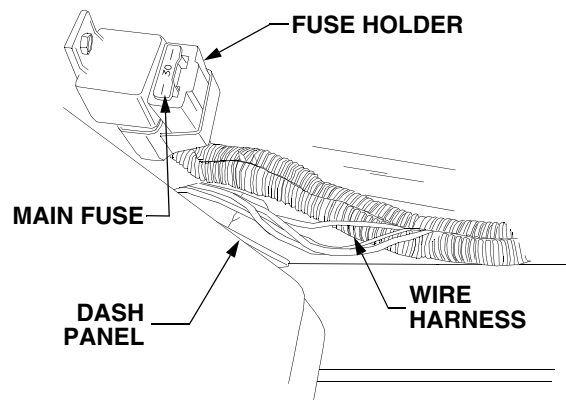

Figure 39
- Locate the main fuse on the lower/right pedestal beneath the dash panel. See Figure 39.